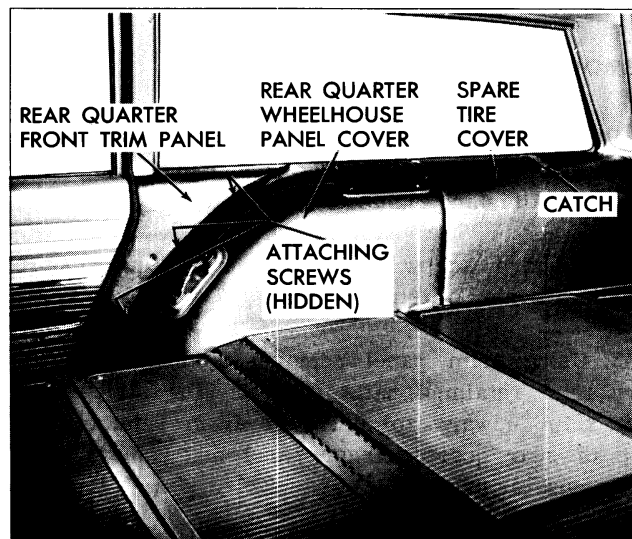

Fig. 4-15 Right Rear Quarter Trim - Station Wagon
2. Remove attaching screw securing trim panel to quarter inner panel and spare tire cover support (Fig. 4-15).